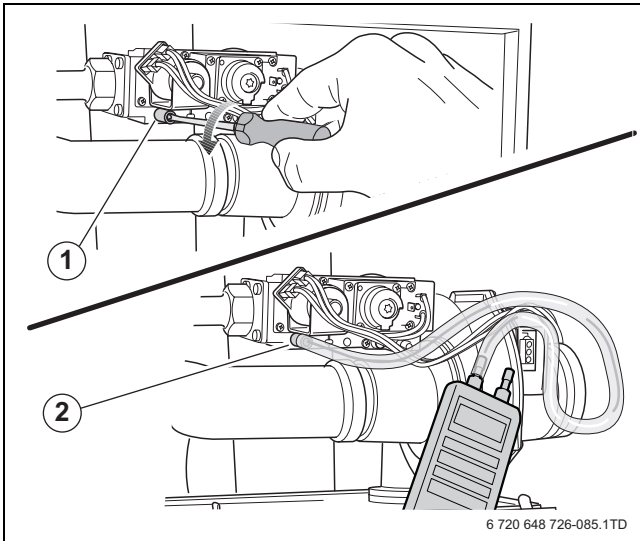

Fig. 85 Measuring the gas supply pressure
- Slowly open the gas valve by pushing on the gas valve and turning it anticlockwise through $\frac{1}{4}$ rotation (fig. 85, page 58). The gas valve is open when it is in the vertical position.